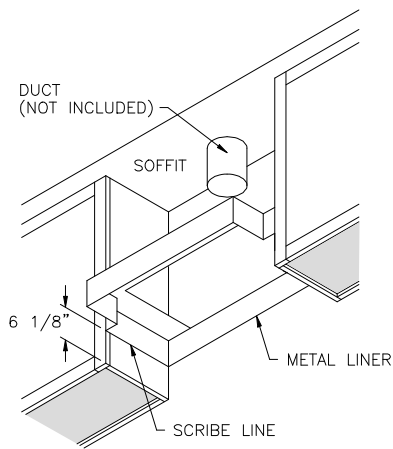

Figure 3
B. Installation: Metal Liner – T-Shaped, Figure 3
2. Raise Metal Liner so that bottom edge of liner is level with scribed lines. Use four (4) #8 x 1/2" screws provided to attach liner to adjacent cabinets through pre-drilled holes in liner. (If metal liner is not flush to cabinet sidewalls, it may be necessary to use a filler piece to avoid bowing the liner.) Locate studs and place two #8 x 1 1/4", supplied, through rear of liner.